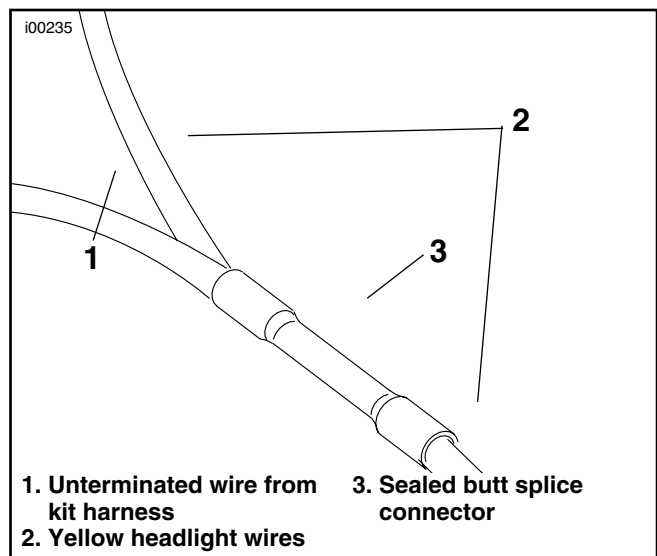

Figure 9. Splice Fog Lamp Switch Wiring
14. **All models:** See Figures 9 and 10. Connect the unterminated wire to the low beam (yellow) wire from the headlamp socket with the sealed butt splice connector from the kit as follows:
- c. Insert the ends of both yellow wires and the wire from the kit harness into the sealed butt splice connector from the kit as shown in Figure 9.